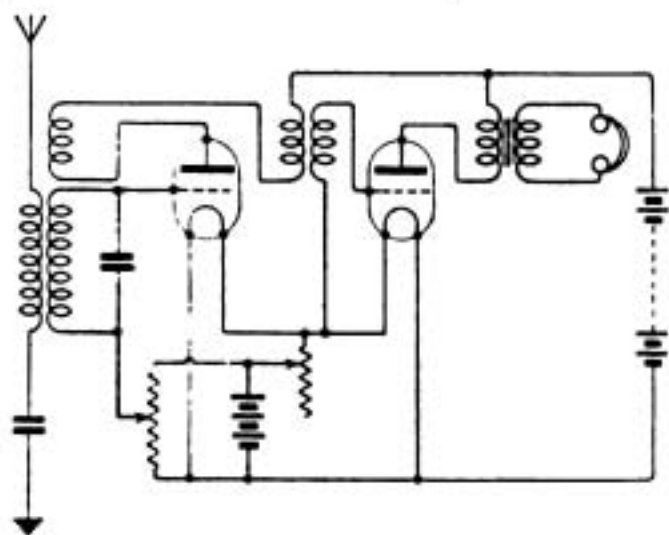

Fig. 1.
**E.S.D. (Ikley)** asks (1) For a two-valve circuit to comply with certain conditions. (2) Suitable H.T. voltage to use with it for R type valves.
- (1) See diagram Fig. 1.
- (2) 60 volts.